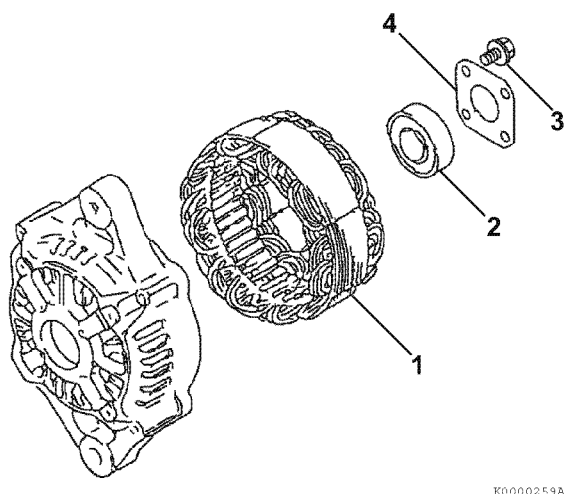

Figure 12-10
9. Remove the stator assembly (1, **Figure 12-10**) from the front frame housing.
10. If it is necessary to replace the bearing (2, **Figure 12-10**) in the front frame housing, remove the four bolts (3, **Figure 12-10**) securing the plate (4, **Figure 12-10**) to the front frame housing. Remove the plate. Use a puller to remove the bearing. Discard the bearing.